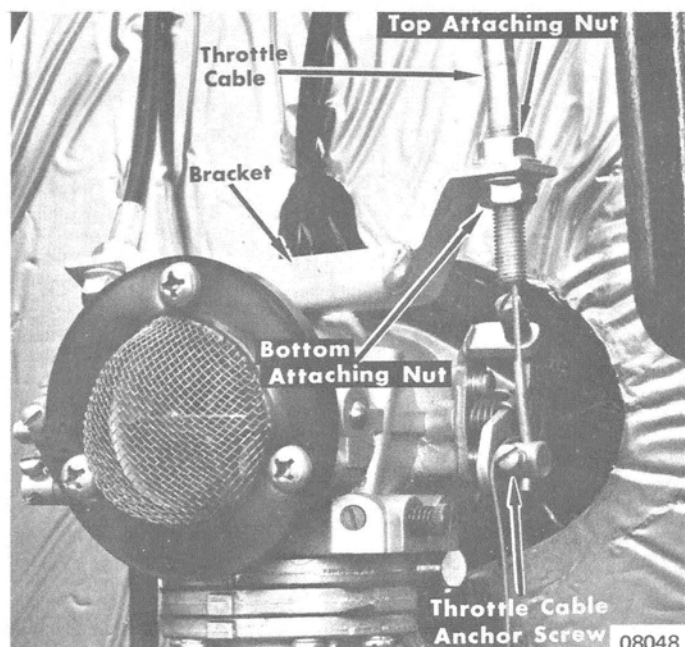

Figure 1. Throttle Cable to Carburetor (Chassis Serial No. 3447382 and Below)
2. Loosen throttle cable anchor screw on carburetor linkage. (Figure 1 or 1A)
3. Remove bottom throttle cable attaching nut from throttle cable. (Figure 1 or 1A)